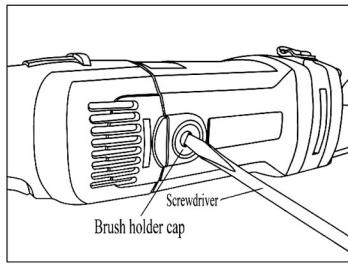

Fig6
3. Use a screwdriver to remove the brush holder caps. Take out the worn carbon brushes, insert the new ones and secure the brush holder caps (Fig6)